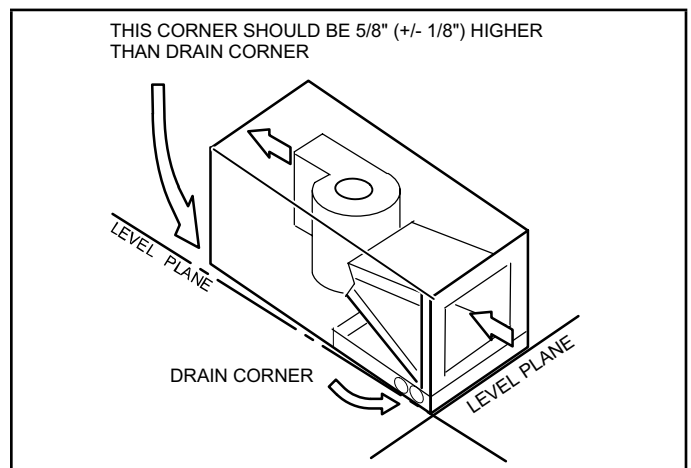

FIGURE 14. Sloping the Unit for Proper Drainage
- 3 - Set unit so that it is sloped toward the upflow drain pan end of the unit and level from front to back of unit (see figure 14).
Make sure the unit is sloped (similar to the slope shown in figure 14) so that the drain pan will empty completely without water standing in the pan.
- 6 - Install a 2" trap in the main (primary) drain lines as close to the unit as practical (see figure 14). Make sure the top of the trap is below the connection to the drain pan to allow complete drainage of the pan.
NOTE - Horizontal runs must have an anti-siphon air vent (standpipe) installed ahead of the horizontal run. See figure 14. An extremely long horizontal run may require an oversized drain line to eliminate air traps.